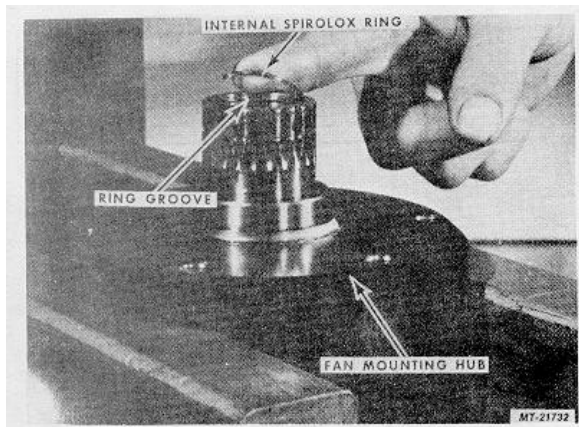

Fig. 40
3. Install Internal Spirolox Ring in the groove, Fig. 40.